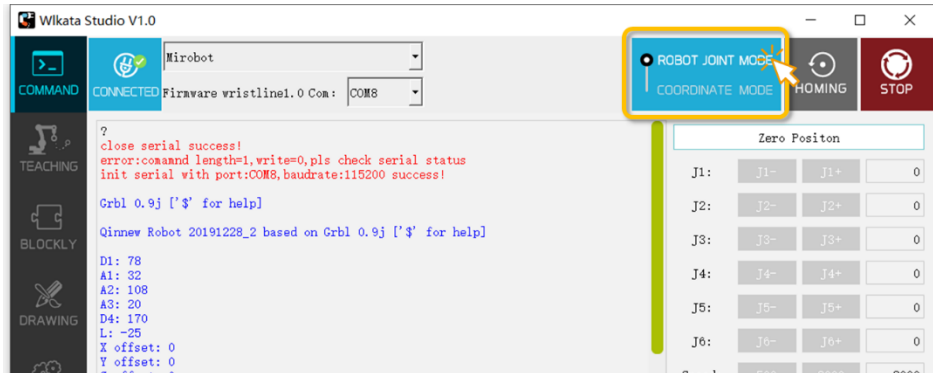

Figure 3.18 Selecting the ROBOT JOINT MODE
(2) Switch to the ROBOT JOINT MODE in the upper-right control modes selection panel, as shown in Figure 3.18.